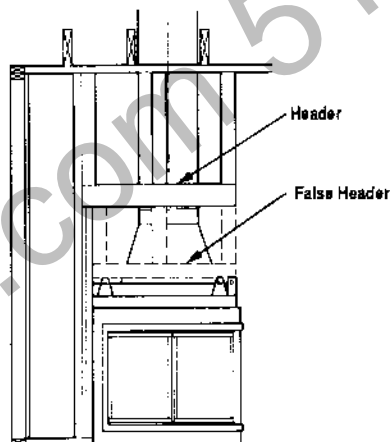

Figure 8
The PF is a unique three sided fireplace and requires certain minor variations from the normal framing procedures for both new construction and remodeling. In all cases, side and end headers must be installed above the fireplace face so that necessary clearances will be maintained between the chimney and framing members. Reference Figures 8 and 9 for details. The fireplace may be installed directly on a combustible floor or raised on a platform of an appropriate height. Do not place fireplace on carpeting, vinyl or other soft floor coverings. It may, however, be placed on flat wood, plywood, particle board or other hard surfaces. Be sure fireplace rests on a solid continuous floor or platform with appropriate framing for support and so no cold air can enter room from under the fireplace.
Step 3. Refer to fireplace drawings and specifications on pages 6 and 7 for framing dimensions and details. False header may be positioned directly on top of the fireplace spacers (Figures 8 and 9).